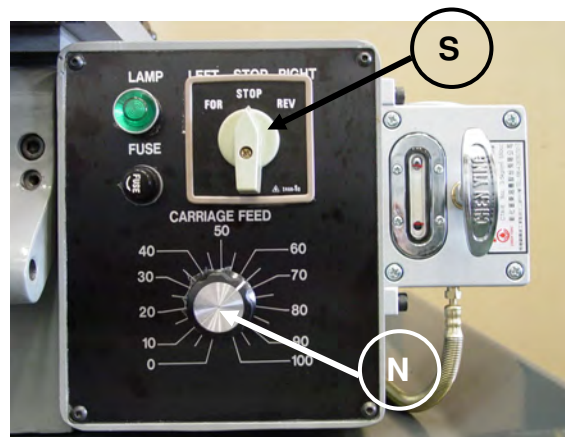

Figure 29-Power Feed Unit
1. The power feed can be operated only when the machine is running. Start the power feed by turning Cam Switch "S" (Figure 29).
2. The Cam Switch "S" (Figure 29) controls the direction of the power feed.
3. The carriage Feed Control "N" (Figure 29) controls the rate of feed. When Cam Switch "S" (Figure 29) is placed in "RIGHT" position, the carriage will feed toward the right, the cross slide will feed away from the operator.
4. When Cam Switch "S" (Figure 29) is placed in "LEFT" position, the carriage will feed toward the left, the cross slide will feed toward operator.
5. Turn Cam Switch "S" (Figure 29) to "STOP" position, power feed motor is turned off.